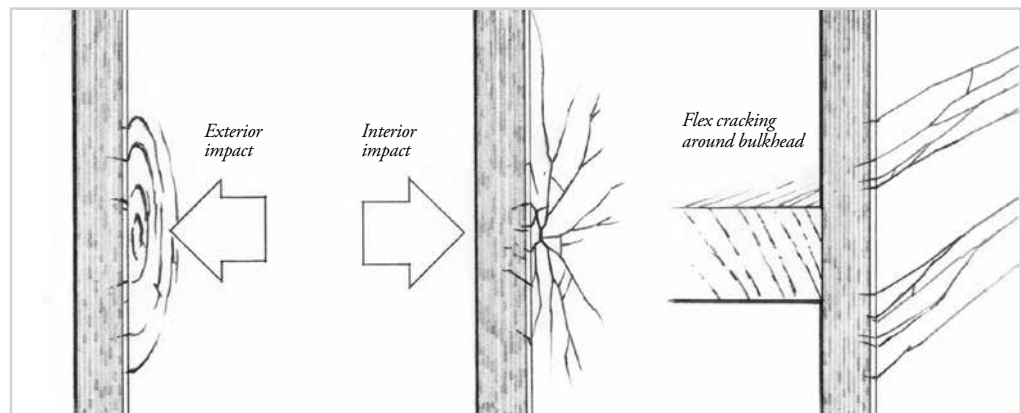

Figure 2-1 Typical types of cracks from impact or flexing. The pattern of cracking may help to determine its cause.
1. Examine the pattern and location of cracks to determine their cause (Figure 2-1). If the pattern or location indicates flexing, examine the interior side of the panel to determine the best location for additional reinforcing. If the cracks are a result of impact, examine